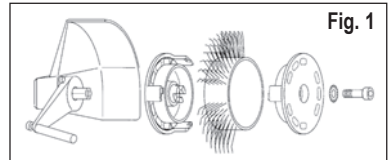
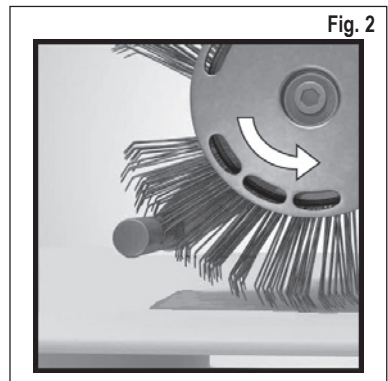

Fig. 1
Fig. 2
1. Interrupt supply of power and then fasten **MBX® Bristle Blaster®** 23 mm belt correctly to the tool using the related adapter system (pay attention to direction of travel) and the related serrated lock washer and screw. **See Fig. 1 and Fig. 2**
Are you using an **MBX**® belt with the wrong direction of travel? – Fit the brush belt such that it runs in the correct direction (see section 5, Placing in operation, Fig. 2).